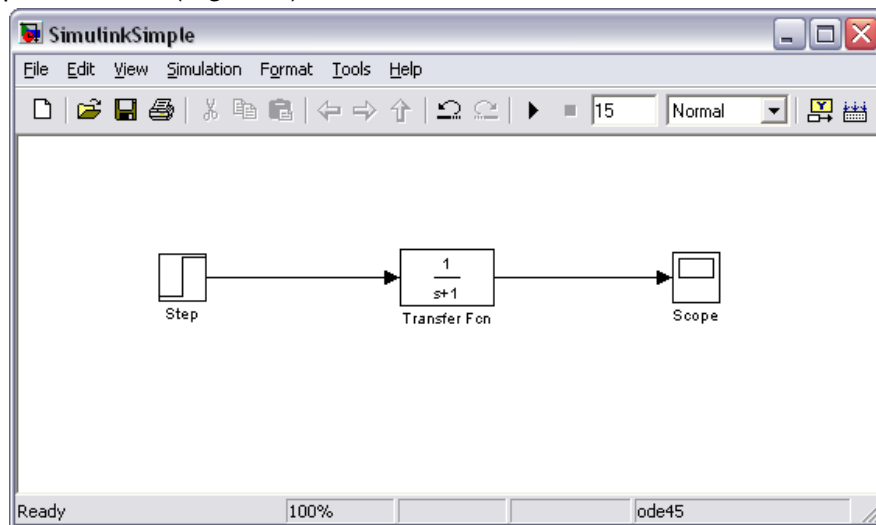
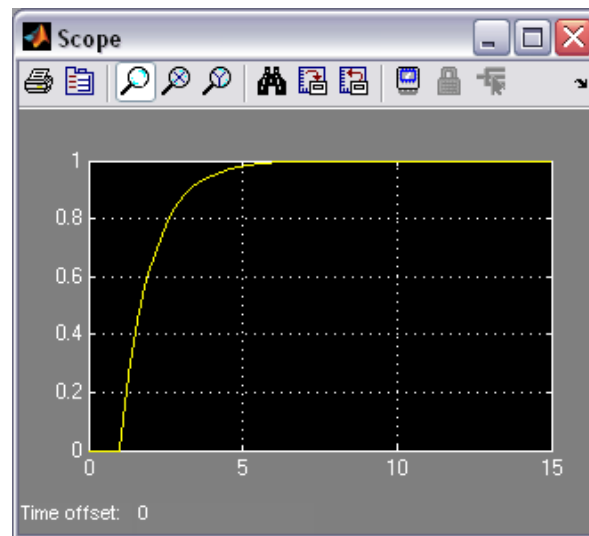

Figure 8 Simple Simulink model
Figure 9 Scope result
- Using the same technique place the 'scope' from the 'Sinks' category and a 'Step' from the 'Sources' category. Interconnect the output of the transfer function with the scope input and the step output with the transfer function input. The obtained model should be as the one presented in (Figure 8)
- You may vary the simulation time by changing the value in the 'Simulation stop time' edit box (Figure 8). Set the stop time to value of 15 [s].
- Open the scope by double clicking on it and run the simulation using the 'Start simulation'  button (Figure 8). The scope should display the following result (Figure 9 – use the binocular  button to autoscale):